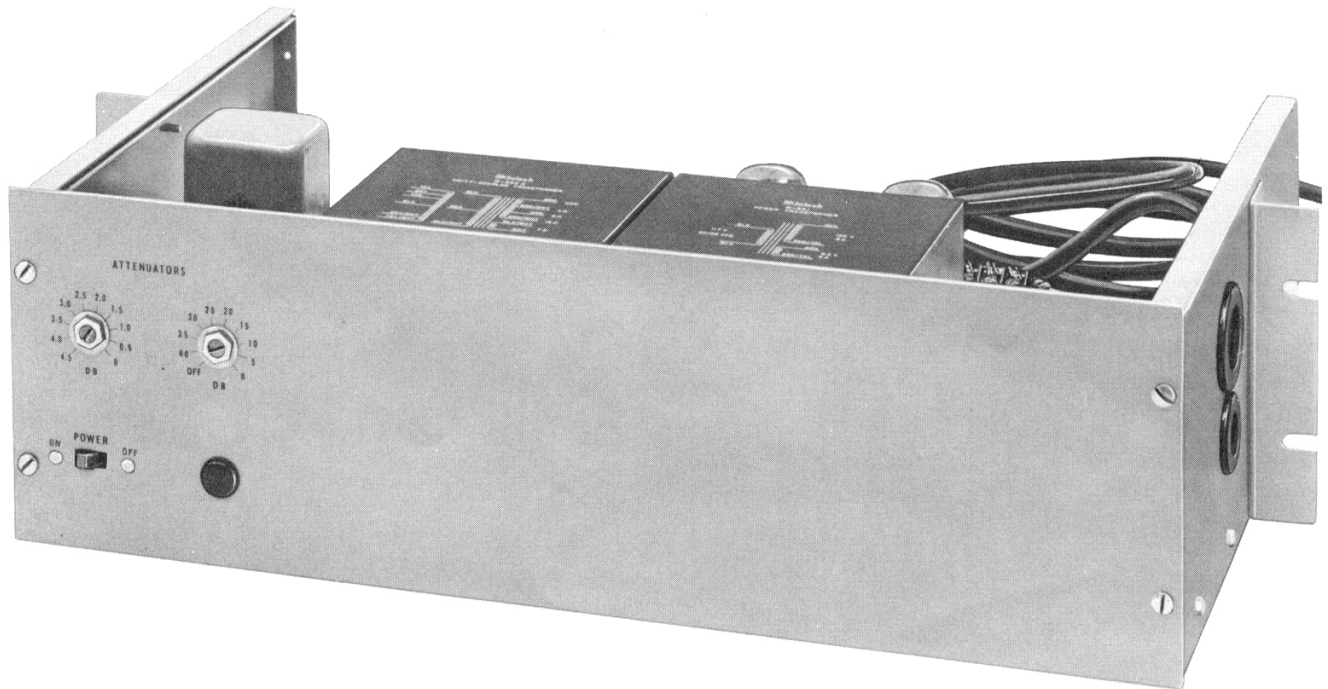
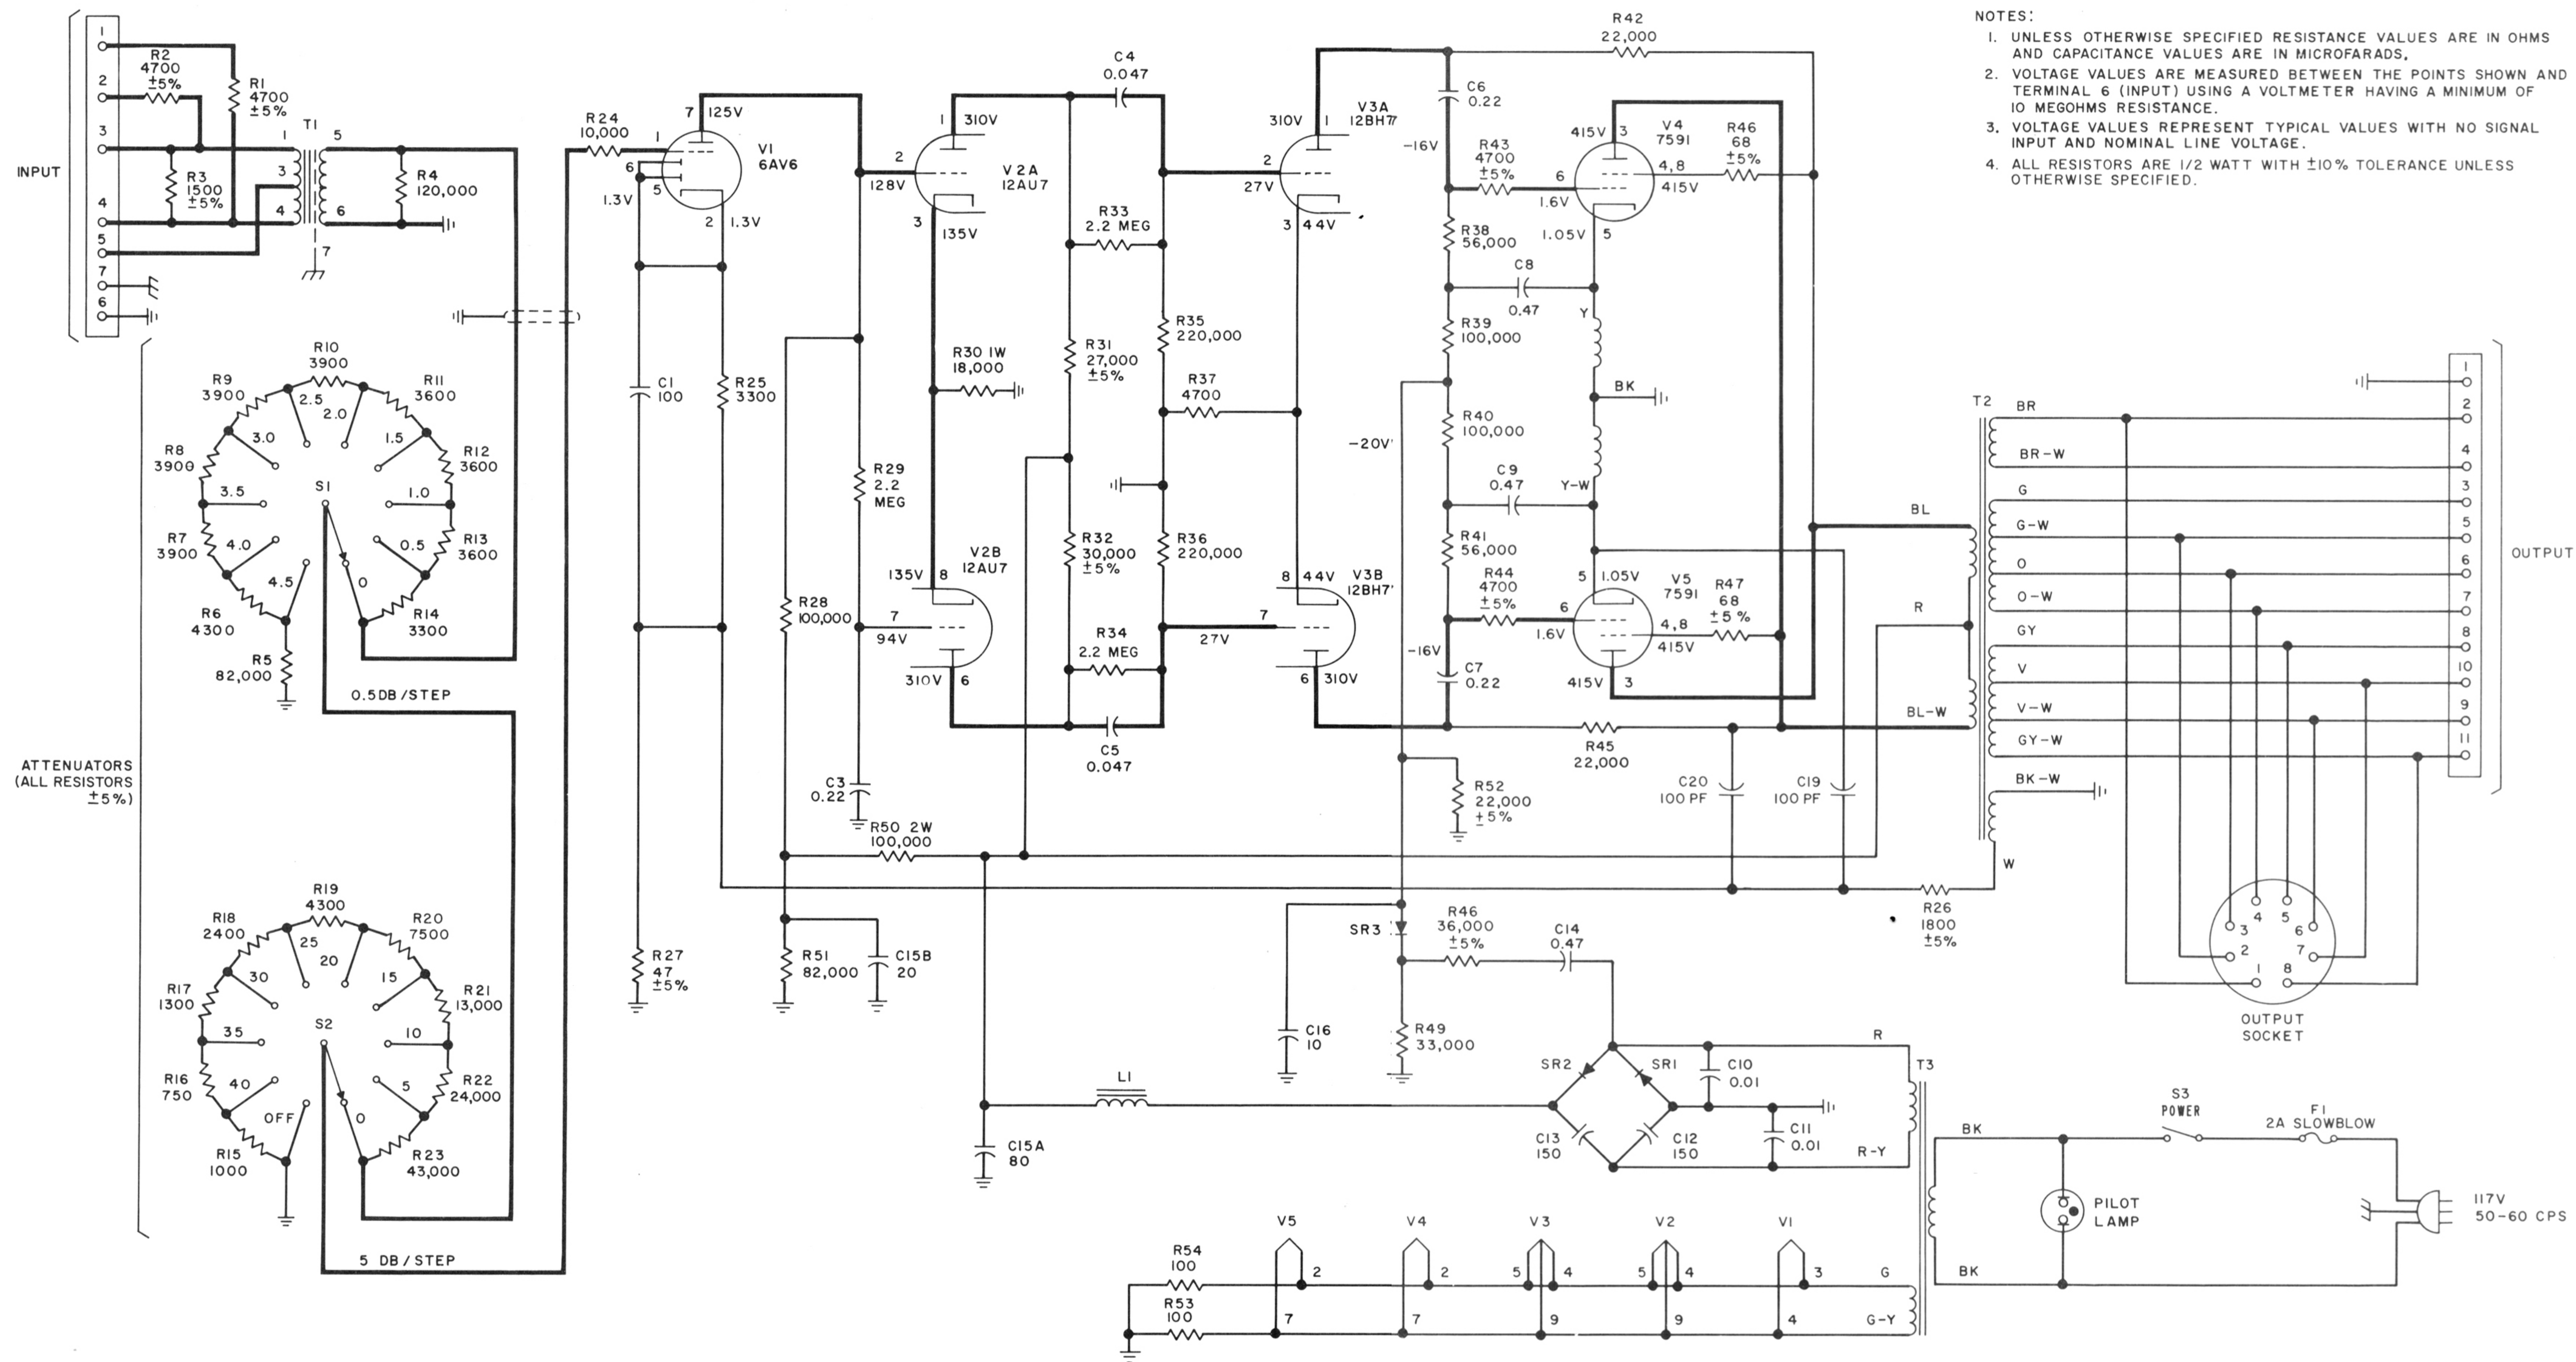

Fig. 1 — KS-19602 L1 Amplifier, Front View
Fig. 3 — KS-19602 L1 Amplifier, Schematic Diagram
1.02 This section is reissued to delete C2, C17 and C18, to add C19, C20, and R26, and to make other changes to the schematic diagram. Also, the ON-OFF marking on the panel illustrated in Fig. 1 has been corrected to agree with actual panel stamping.
1.03 The KS-19602 L1 amplifier is ac operated and is capable of low distortion amplification of signals which contain frequencies from 20 to 20,000 hertz. It is designed for mounting on standard 19-inch relay racks. Fig. 1 and 2 show the front and rear views of the amplifier; Fig. 3 shows a schematic diagram of the amplifier.